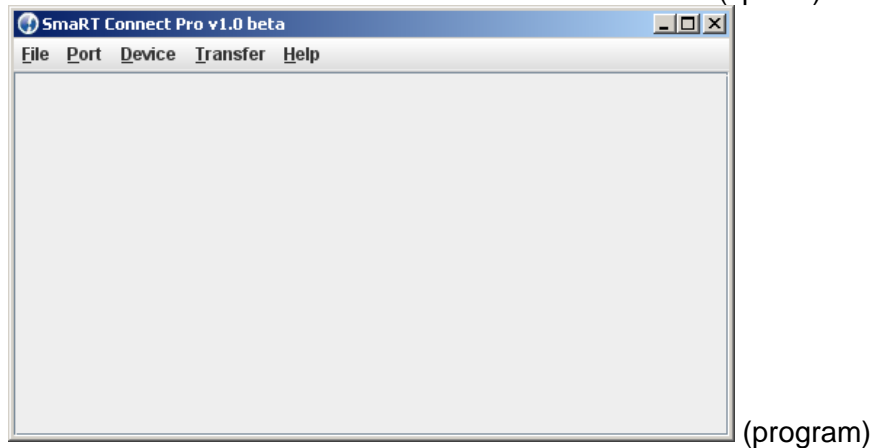

Figure 3
4. Double-click the desktop SmaRT Connect shortcut to invoke the program. The following splash screen is briefly displayed followed shortly thereafter by the program window also shown in Figure 3 below: